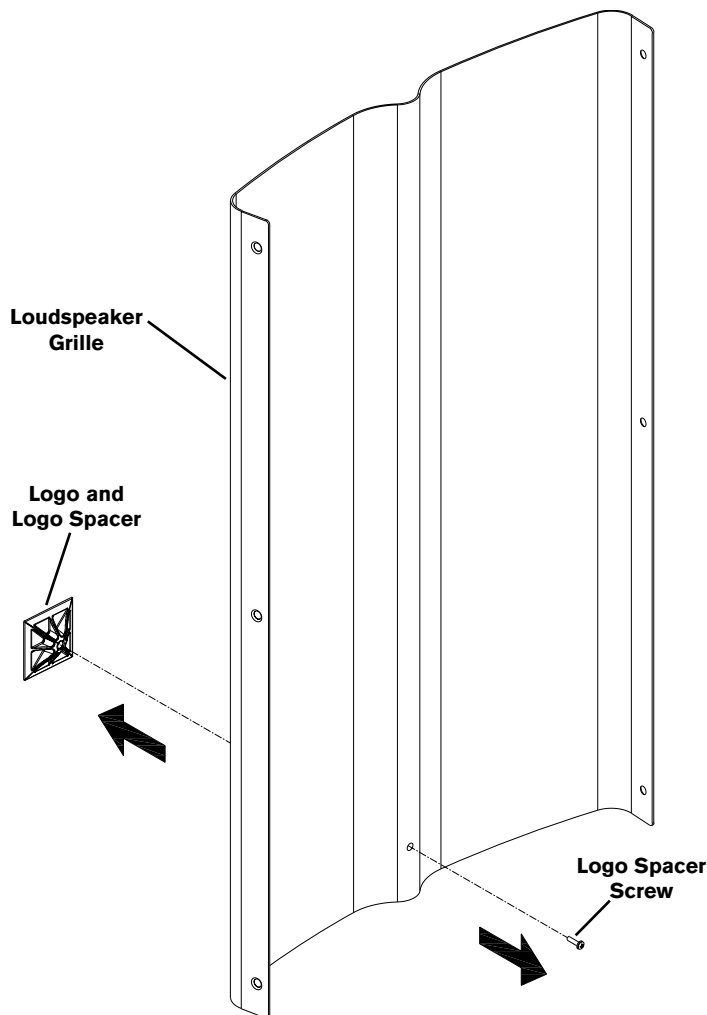

Figure 11:
2. Remove the one (1) screw on the back of the grille that attaches the spacer to the grille (Figure 11).
4. Reattach the spacer to the grille using the one (1) screw (reverse of Figure 11). Be sure that the screw is tight enough so as not to rattle during use, but not so tight the logo warps inward.